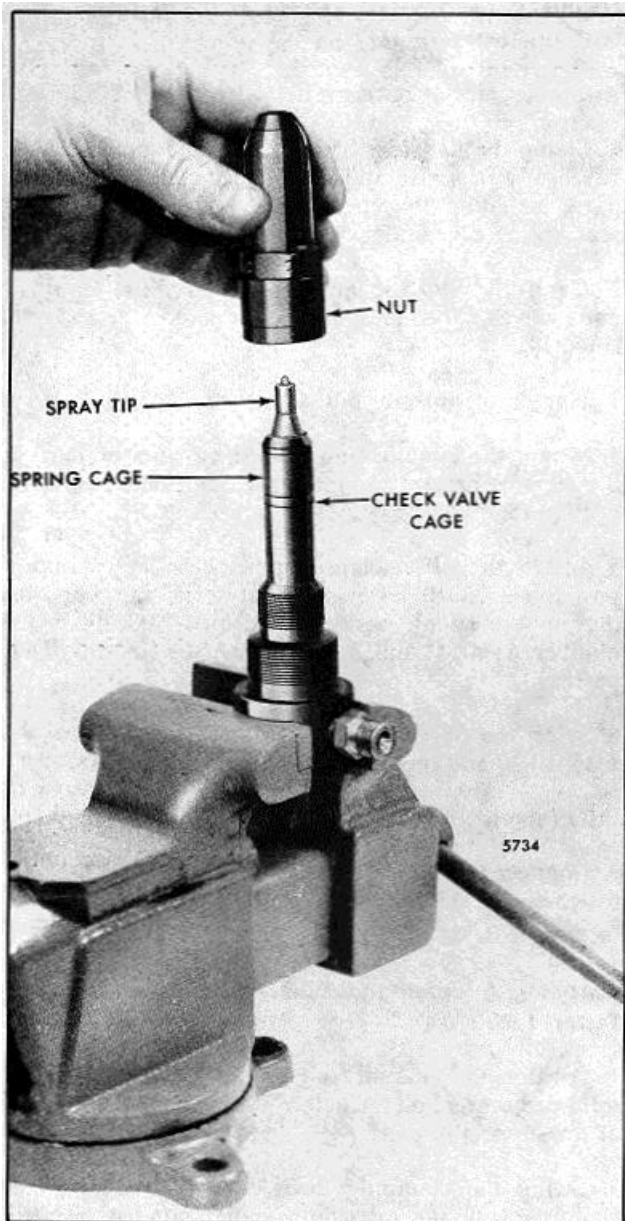

Fig. 14 Assembling Injector Valve Parts on Tip Tester Adaptor J 23010-129
2. Carefully pilot the injector nut over the spray tip and valve parts and thread it onto the adaptor (Fig. 14).